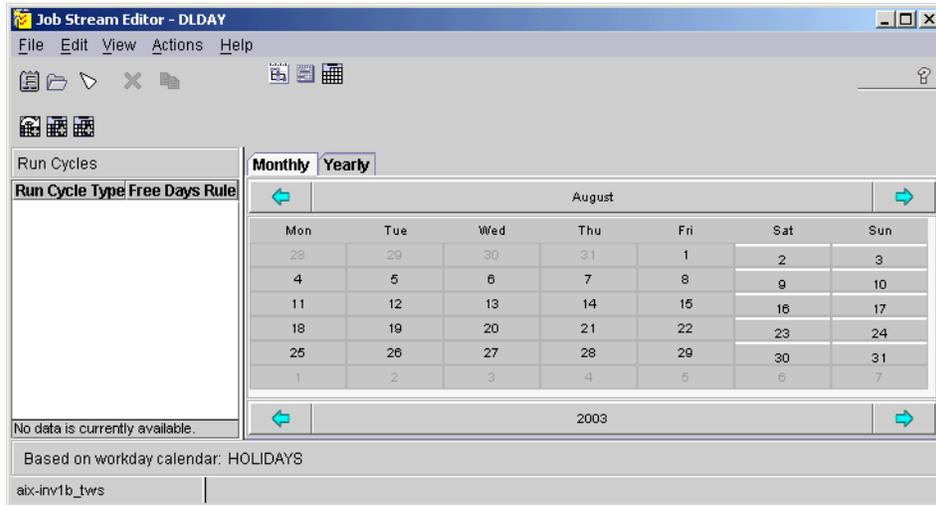

Figure D-13 Job Stream Editor: Run Cycle
17. From the menu, select **View** → **Run Cycle**. The run cycle view is displayed as shown in Figure D-13 on page 480.